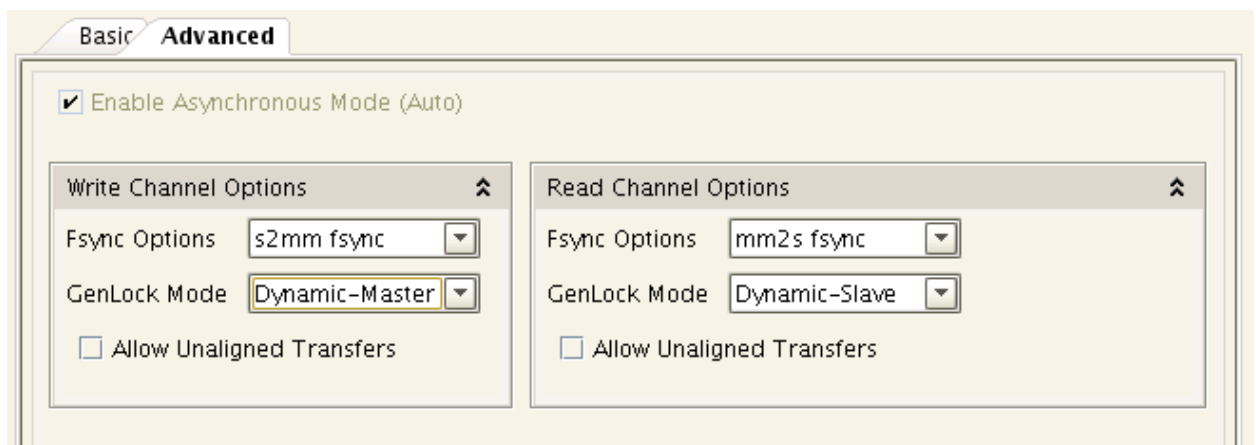

Figure 48: AXI VDMA Advanced Tab
3. Click the **VDMA Advanced** tab, ensure that **Enable Asynchronous Mode** is checked, and configure the settings to match Figure 48, as follows: